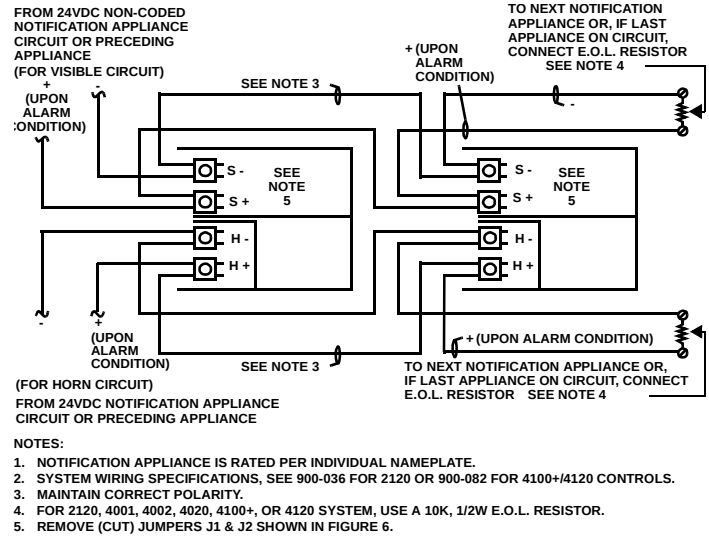
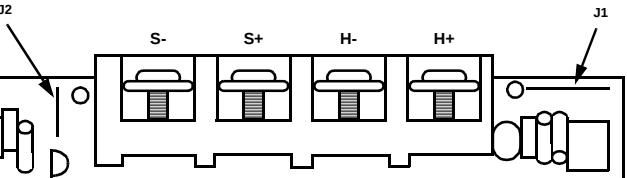

Figure 5. Wiring for Horn/Visible Units Using Separate Horn and Visible Notification Circuits (See Table 2 for Model Numbers)
Figure 6. Location of Jumpers J1 and J2 for Horn/Visible Units
At the enclosure box, connect the contractor horn (audible) wires and the wires for the visible portion to the terminals at the rear of the unit. Refer to Figures 5 through 7.
1. When connecting more than one horn/visible unit to a circuit, ensure that correct polarity is maintained on both audible and visible wiring. See Figures 5 through 7.
2. When connecting the last horn/visible unit on a circuit, connect the E.O.L. resistor to the terminal block as shown in Figures 5 through 7.
NOTE: When wiring horn/visible units using separate horn and visible notification circuits (Figure 5), make certain that you remove (cut) Jumpers J1 and J2 shown in Figure 6.